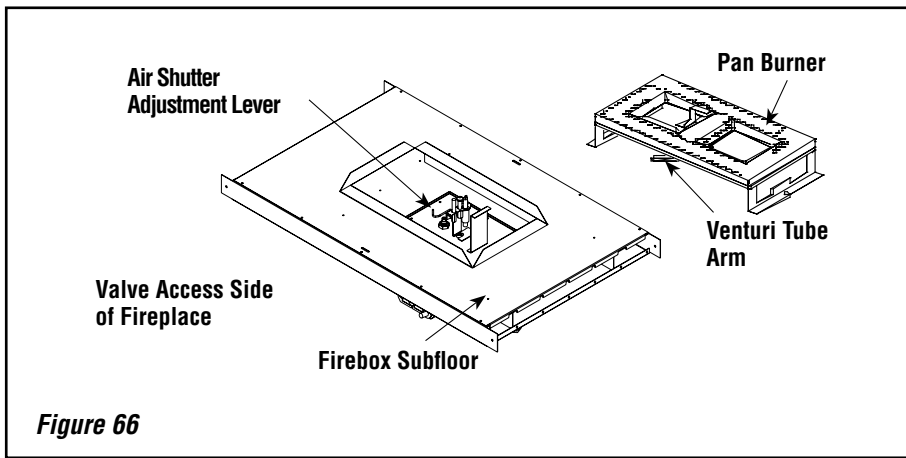

Figure 66
b. Locate the two (2) latches at the top of the control compartment. To disengage the two latches from the bottom vee-flange of the glass enclosure panel, reach for the handles located towards the back of the latches and pull the handles down toward the front of the appliance.
Step 3. Referring to **Figure 66**, remove the burner.
Ensure that the arm of the venturi of the burner is hooked onto the air shutter adjustment lever (refer to *Figure 66 on Page 42*). The primary air opening can be adjusted by rotating the adjustment lever from beneath the firebox floor. Refer to *Figure 64 on Page 37* for the recommended minimum primary air shutter opening setting.